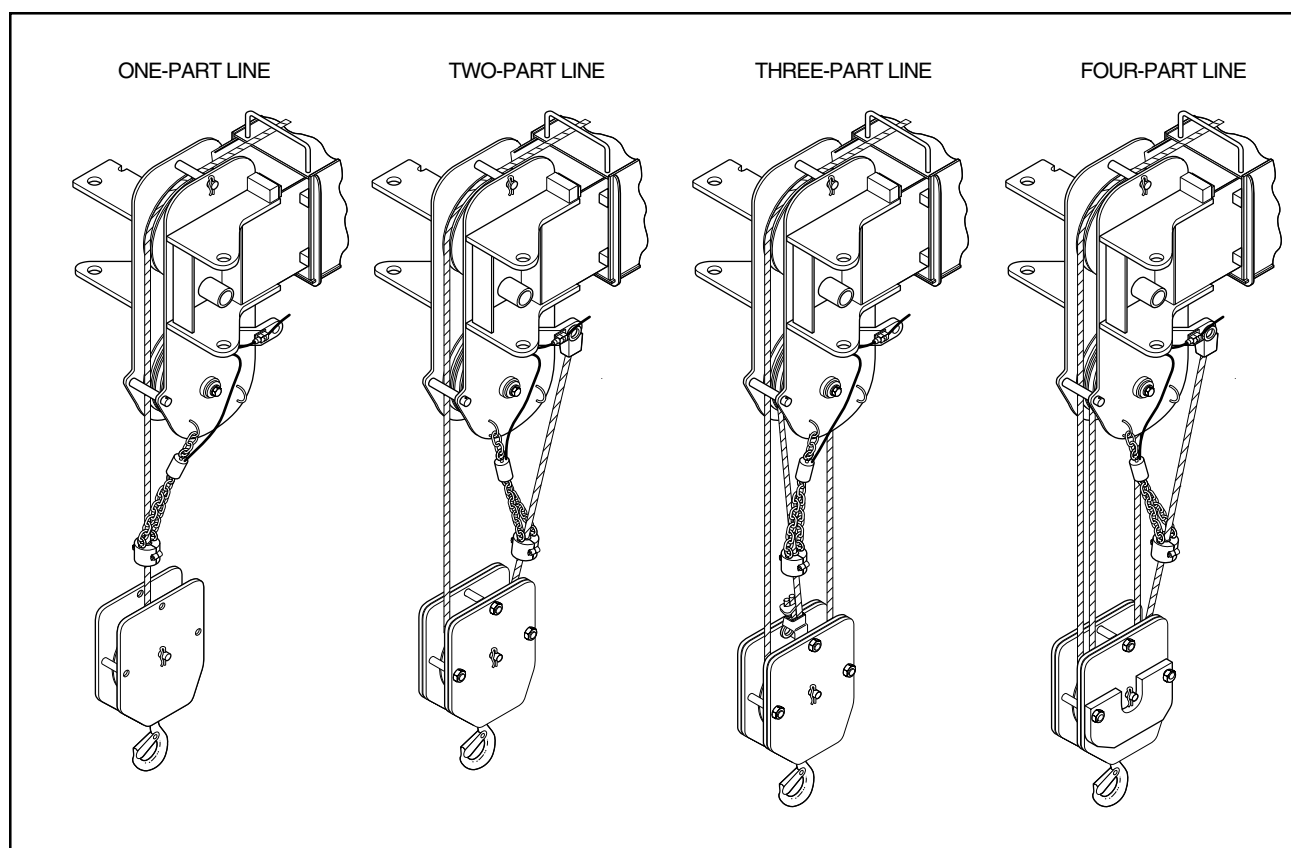

Figure 3-7. Reeving Configurations
6. If not already done, install cable socket onto the end of hoist cable as described in Figure 3-7.